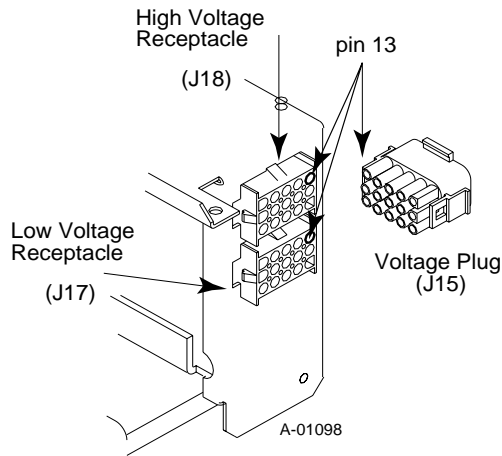

Figure 3-3 High-Low Voltage Selection
- a. Check the input voltage at Pin 13 on the High-Low Voltage Selection Plug (J15) with respect to L2. (Refer to Figure 3-3). This voltage should be the same as the incoming voltage.